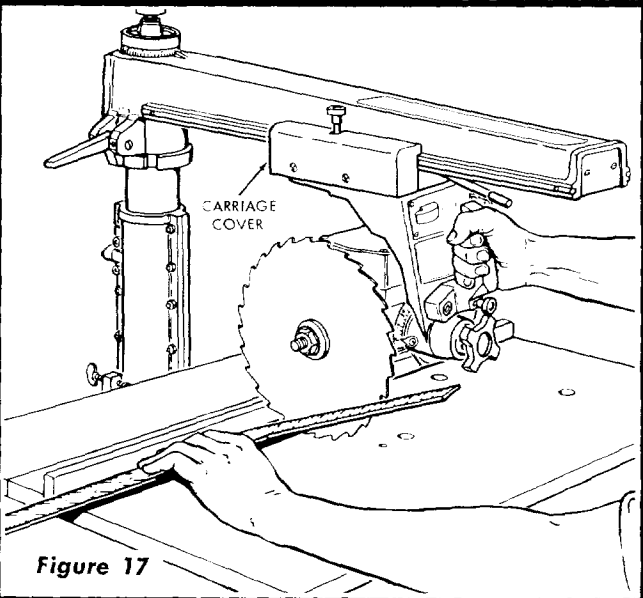

Figure 17
3. Place a square against the rip fence and the saw blade as shown in figure 17. The long leg of the square must be held firmly against the rip fence and the short leg must not touch any of the teeth on the saw blade.
- a. Remove the left-hand carriage cover by removing the two attaching screws. (See figure 17.)
- d. With the square in position shown in figure 17, shift the yoke until the gap between the saw blade and square is eliminated.
- f. Recheck for heel (figure 17) to make sure that tightening the hex-head screws did not affect the setting. Several trial settings may be required.